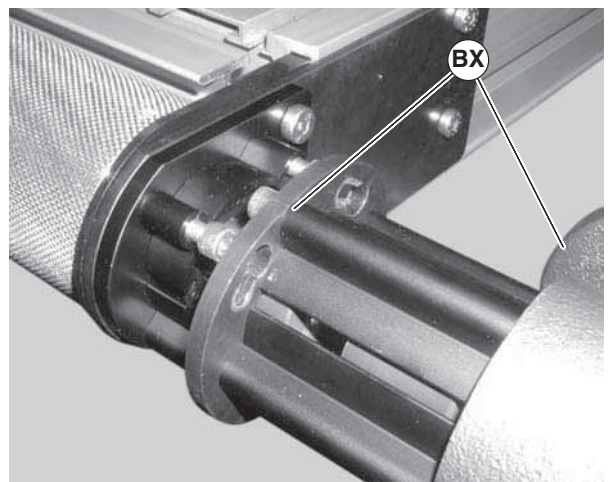

Figure 55
- c. Rotate and remove the gear motor and guard assembly (Figure 55, item BX).